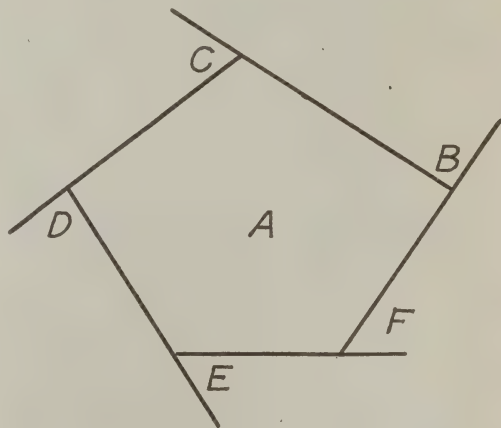

Figure 10.
**Definition:** The exterior angles of a polygon are the angles formed by projecting one end of each side, as shown in Figure 10.